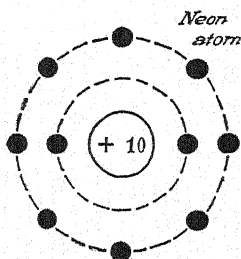

FIG. 103. — The neon atom neither gains nor loses electrons.
**137. Atoms with Ten or More Electrons.** The neon atom has ten electrons, two in an inner ring or shell, and eight in another. (See Fig. 103.) This configuration is stable, and no electrons can be added to it or taken from it. Hence neon belongs to that bachelor group of elements that forms no alliances with other elements. The sodium atom has eleven planetary electrons, two in one ring, eight in another, and a single valence electron. It is a very active metal, since it loses this single electron so easily. The chlorine atom has an inner ring of two electrons, a second ring of eight, and seven valence electrons.